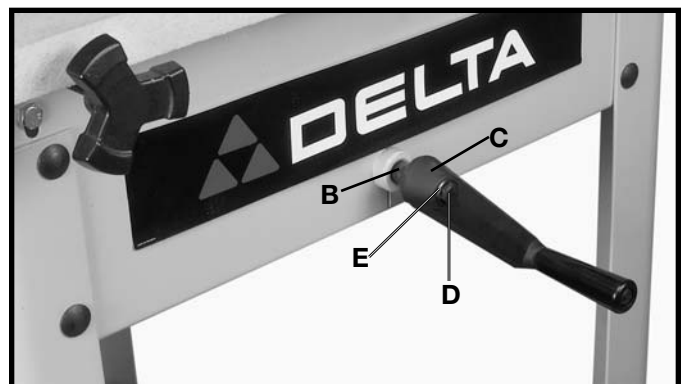

Fig. 6
3. Fasten elevating handle (C) Fig. 6, to shaft (B) with a 1/4-20X1/2" hex head screw (D) and 1/4" flat washer (E).